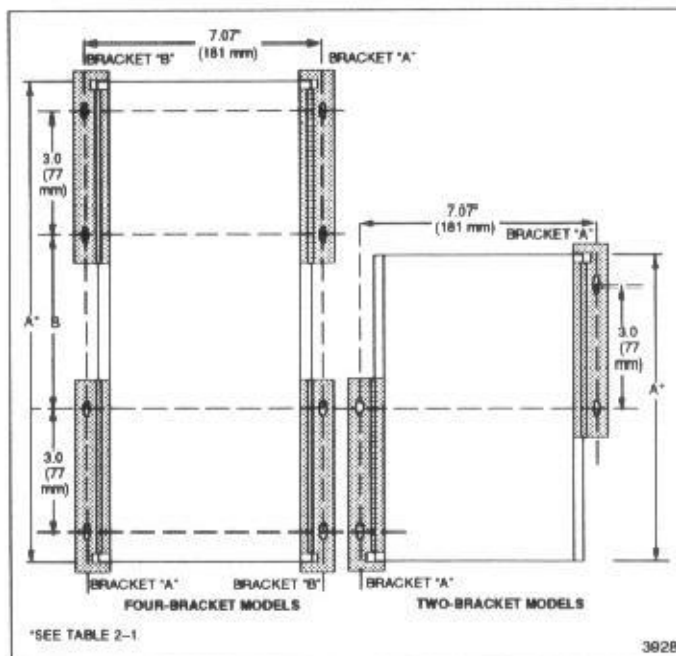

Figure 2-1. Mounting orientation for large (four-bracket) and small (two-bracket) Model 664 SCR controllers.
You can mount all models of the model 664 controller on a bench, but the preferred method is to mount them vertically on a bulkhead using two or four brackets (supplied) depending on the size of the controller. Figure 2-1 and table 2-1 give mounting dimensions for each model.
Table 2-1. Mounting Bracket Dimensions for Figure 2-1. Dimensions in inches (mm).
2. Using figure 2-1 and table 2-1 as guides, mark the locations of the holes that must be drilled.
4. Attach the lower mounting bracket(s) (one or two, depending on the size of the controller) to the mounting surface using #10 screws (not supplied). Orient the brackets as shown in figure 2-1. Do not tighten the screws yet.